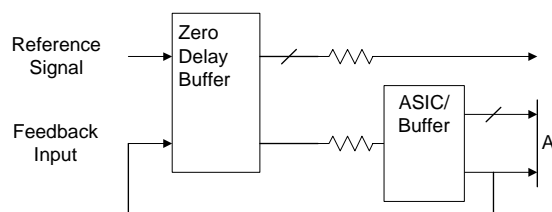

Figure 2. Six Output Buffer in the Feedback Path
Referring to *Figure 2*, if the traces between the ASIC/Buffer and the destination of the clock signal(s) (A) are equal in length to the trace between the buffer and the FBIN pin, the signals at the destination(s) device will be driven HIGH at the same time the Reference clock provided to the ZDB goes HIGH. Synchronizing the other outputs of the ZDB to the outputs from the ASIC/Buffer is more complex however, as any propagation delay from the ZDB output to the ASIC/Buffer output must be accounted for.